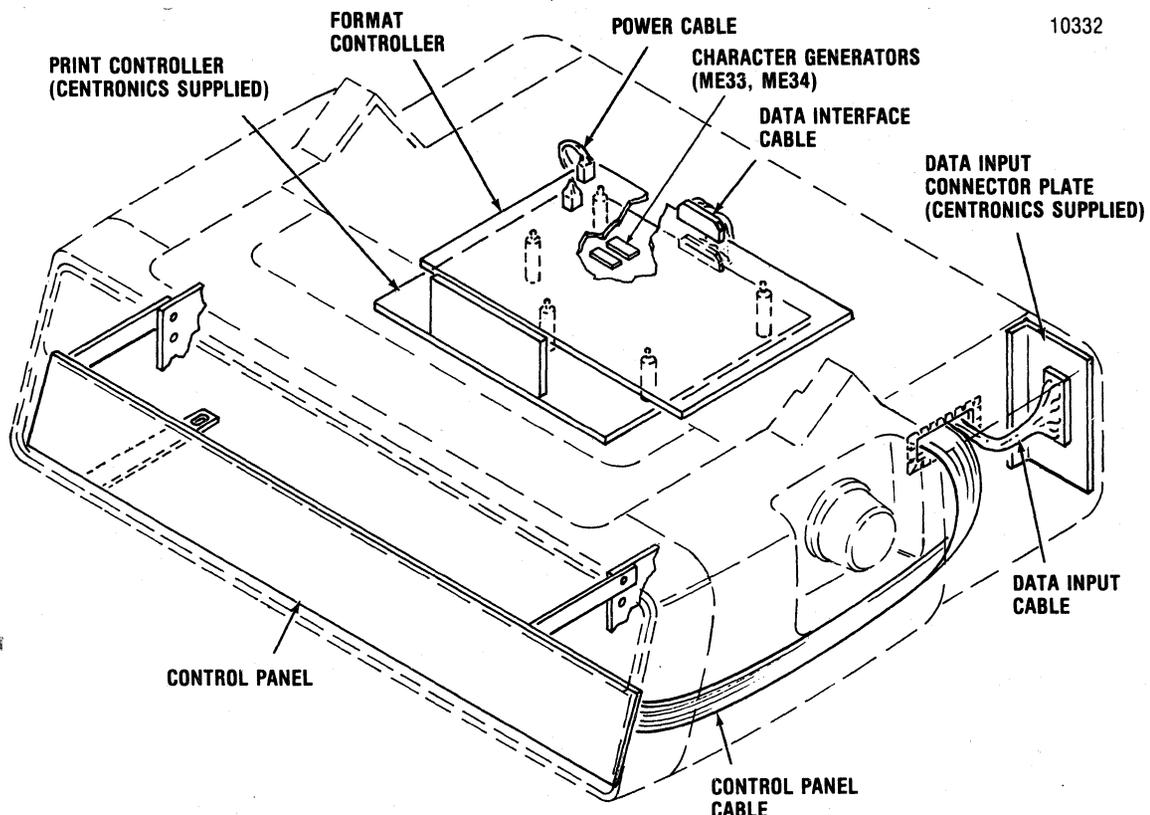

Figure 2-1 Customer-Supplied Components
- **Data Input Cable**—A cable assembly that connects input/output lines between Format Controller and the host system. As shown in Figure 2-1, a cut-out is provided in the printer to facilitate cable routing.
- **Control Panel Cable**—A cable assembly that connects the control panel to the Format Controller. Figure 2-1 shows a suggested cable routing through an existing cut-out in the printer.